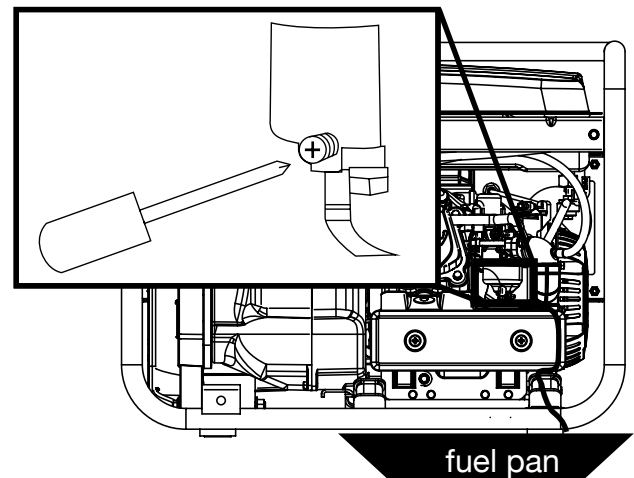

Figure 17: Loosen float bowl screw
3. Loosen the float bowl drain screw (see Figure 17) until fuel is seen draining from the float bowl.